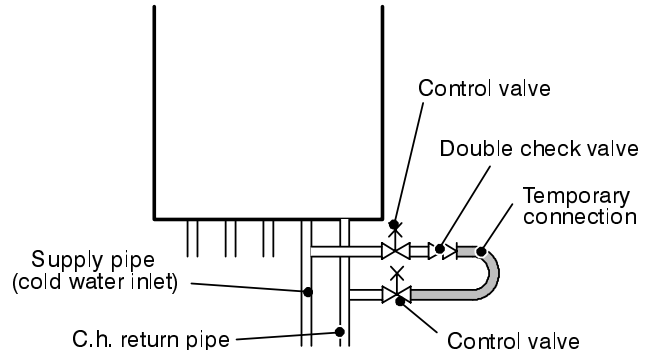

Fig. 2.1
- 1 Isolate the boiler from the electrical supply at the fused spur. Reconnect the filling loop as demonstrated in Fig. 2.1.